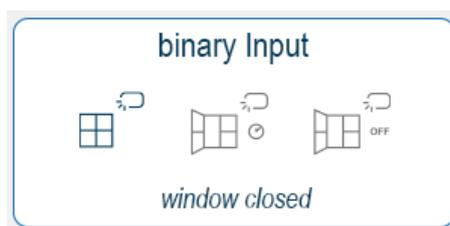

Figure 4.5 State 1 window closed.
- **State 1:** Window closed (See Figure 4.5)